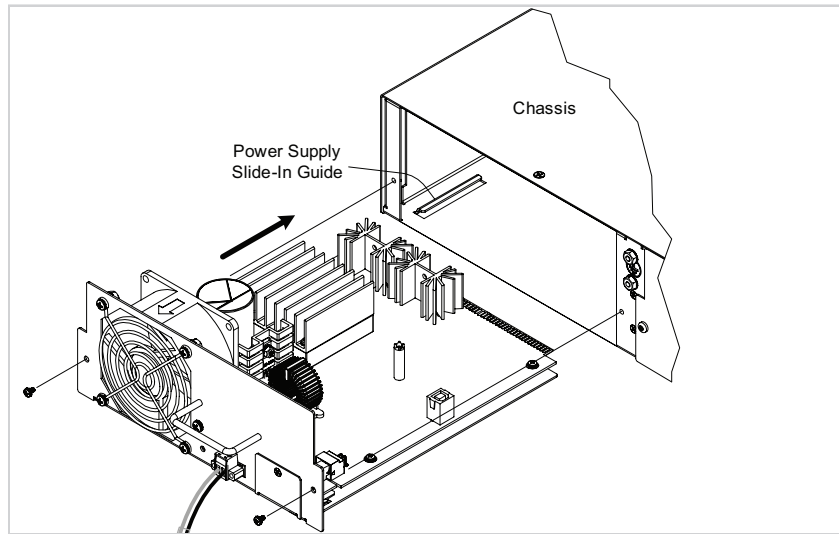

Figure 6: Replacing the Power Modules
9. Position the power module at the chassis slot, as shown in Figure 6.